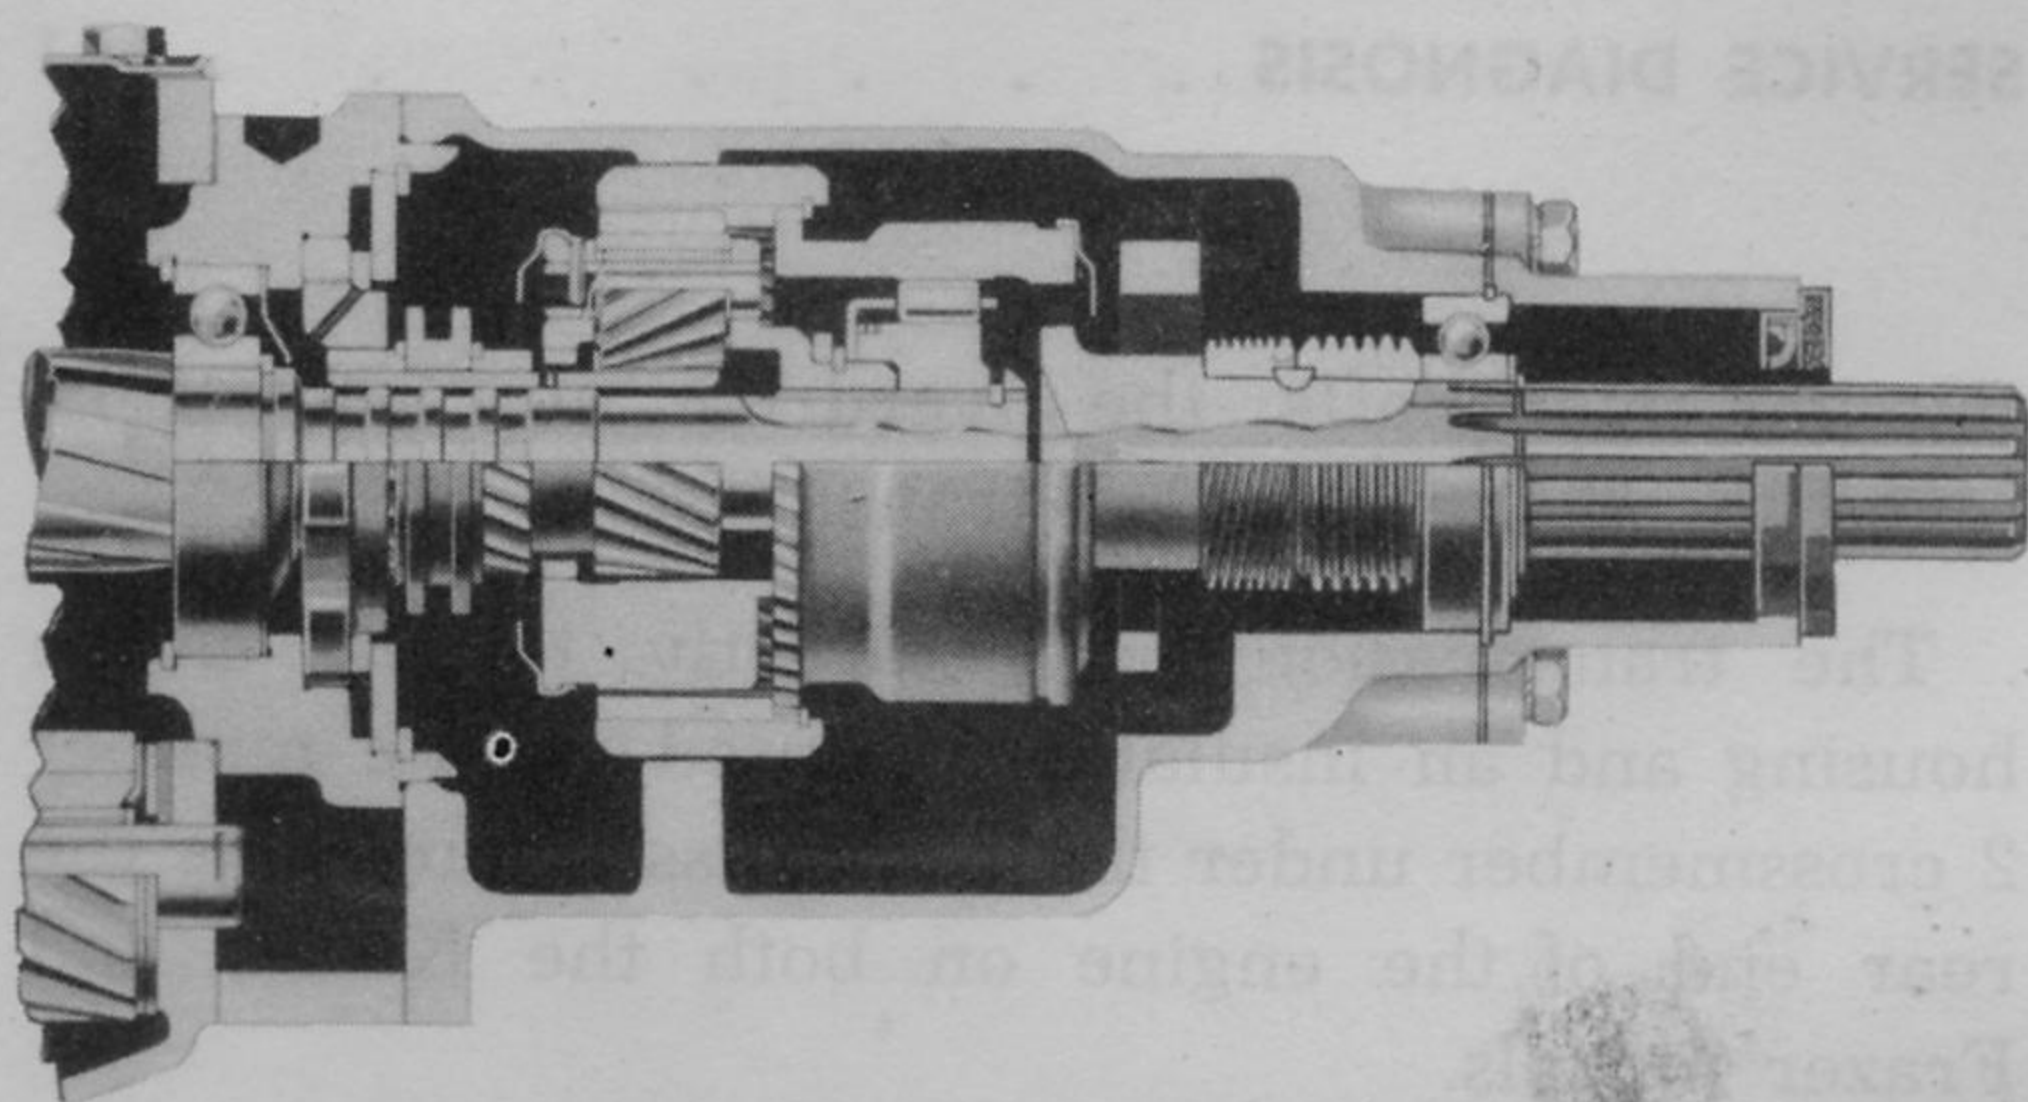

Fig. 180—Overdrive Transmission—Sectional View
b. OVERDRIVE DESCRIPTION AND OPERATION (Fig. 180). The overdrive unit, at the rear of the overdrive transmission, is essentially a fourth forward gear ratio. Operation in overdrive gives an approximate 30 per cent reduction in engine speed relative to the normal engine speed for any given car speed above 28 MPH.